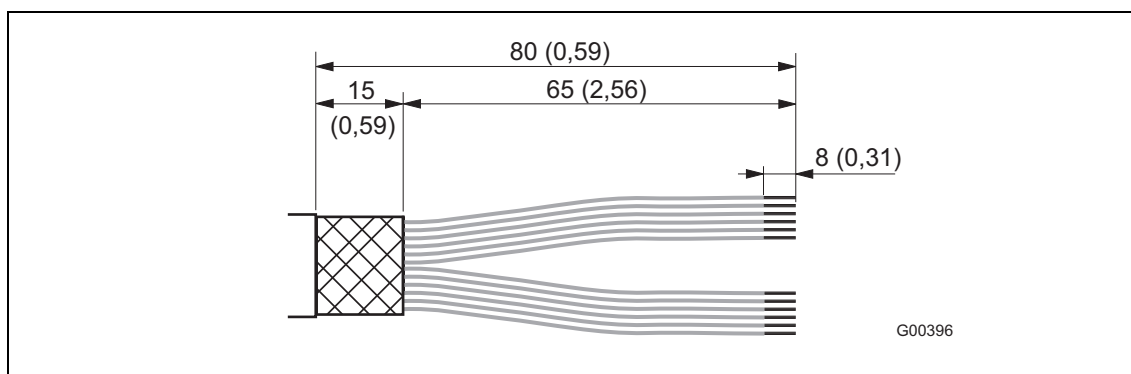

Fig. 28
Cut the cable to length and terminate it as shown. (See Fig. 28 and 29.)
1. Remove signal cable insulation as shown in Fig. 28.